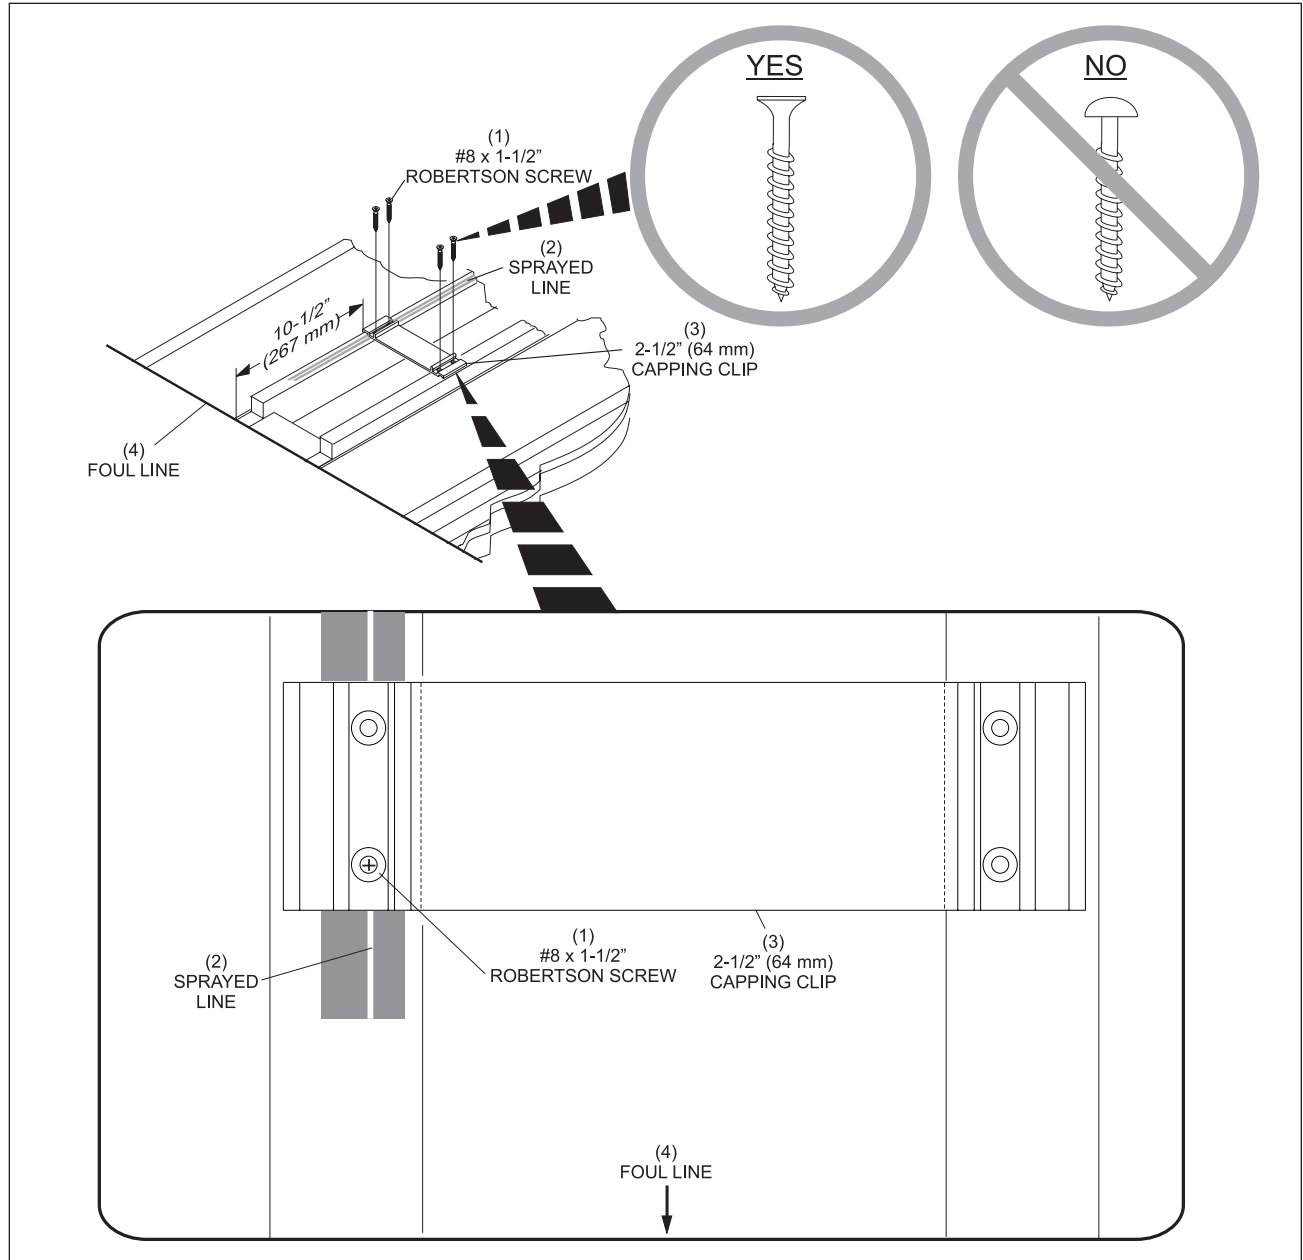

Figure 24. Clip Installation
1. Install the additional capping clips as shown in *Figures 24 and 25*.